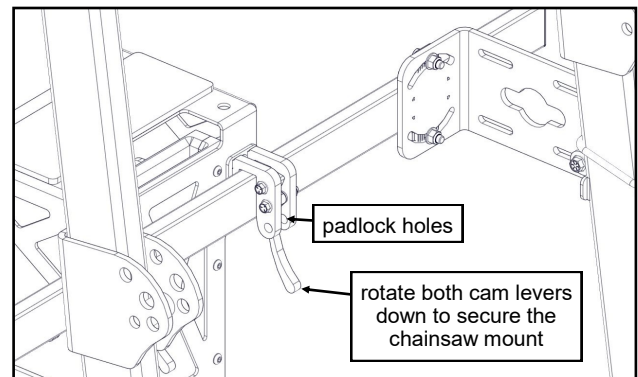

Fig. 3 (cam lever in the closed position)
3. To secure the chainsaw mount to the Tool Bar, rotate both cam levers DOWN until they cam over. See fig. 3.
NOTE: For additional security, the chainsaw mount can be locked to the Tool Bar by inserting a padlock through the holes in the mounting bracket where shown in fig. 3.